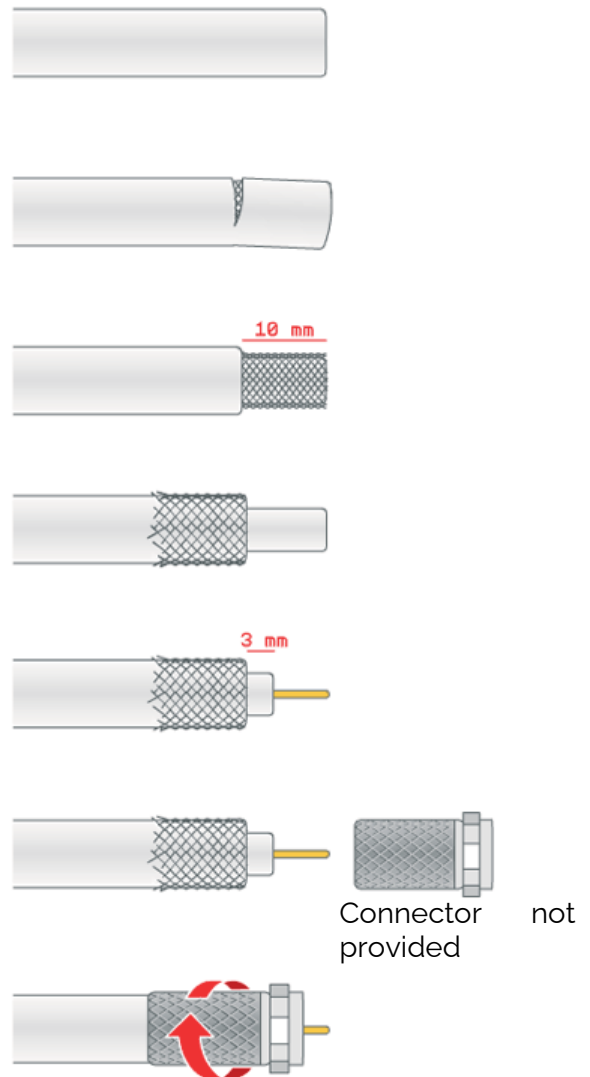

Fig. 13
11. If the cable(s) need to be made shorter, please refer to the instructions given in Fig. 13.